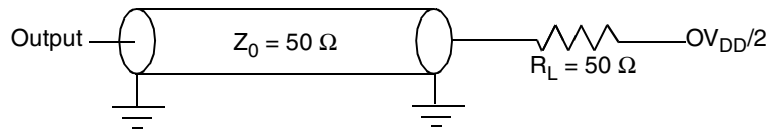

Figure 21. Local Bus C Test Load
Figure 21 provides the AC test load for the local bus.
- All outputs are measured from the midpoint voltage of the falling/rising edge of t_{TCLK} to the midpoint of the signal in question. The output timings are measured at the pins. All output timings assume a purely resistive 50- Ω load (see Figure 21). Time-of-flight delays must be added for trace lengths, vias, and connectors in the system.
- The symbols used for timing specifications herein follow the pattern of $t_{(\text{first two letters of functional block})(\text{signal})(\text{state})(\text{reference})(\text{state})}$ for inputs and $t_{(\text{first two letters of functional block})(\text{reference})(\text{state})(\text{signal})(\text{state})}$ for outputs. For example, t_{JTDVKH} symbolizes JTAG device timing (JT) with respect to the time data input signals (D) reaching the valid state (V) relative to the t_{JTG} clock reference (K) going to the high (H) state or setup time. Also, t_{JTDXKH} symbolizes JTAG timing (JT) with respect to the time data input signals (D) went invalid (X) relative to the t_{JTG} clock reference (K) going to the high (H) state. Note that, in general, the clock reference symbol representation is based on three letters representing the clock of a particular functional. For rise and fall times, the latter convention is used with the appropriate letter: R (rise) or F (fall).